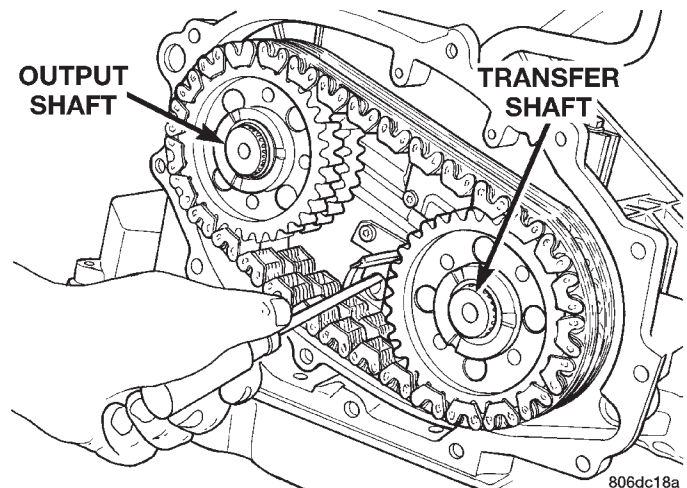

Fig. 301 Screwdriver Placement
(1) Insert a screwdriver into the 18 mm hole with the screwdriver **ABOVE** the chains (Fig. 301).